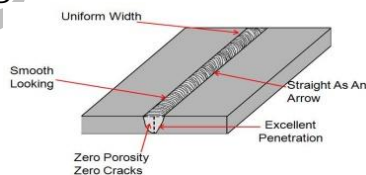

Figure5
29. state the symbol of the welding done on the plate in figure 5 below